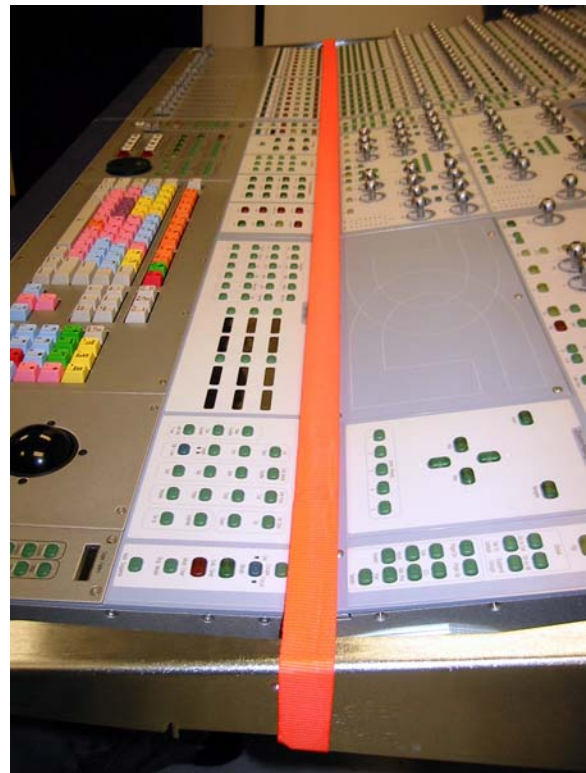

Figure 27. Using a nylon strap on the D-Control units
- 5 If necessary, use the ratcheting nylon strap to compress the D-Control units together by running the strap around the top part of the legs and across the D-Control units as shown in Figure 27. Make sure the nylon strap does not contact any switches or encoders on the surface.